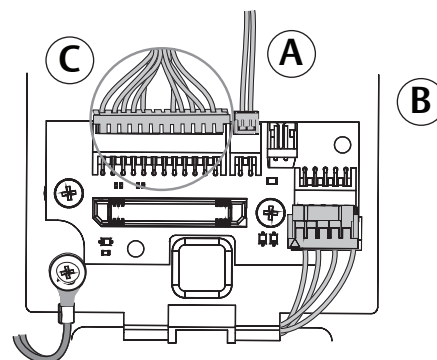

Figure 6-3B
3. Secure the following connectors (Figure 6-3B, Figure 6-3C).
- Secure the mounting assembly while ensuring proper alignment of outside reader and fully tighten the (2) through-bolts on the inside of the door to secure the reader and plate to the door
- C. Secure the 24-pincard reader connector. (Figure 6-3B, Figure 6-3C)